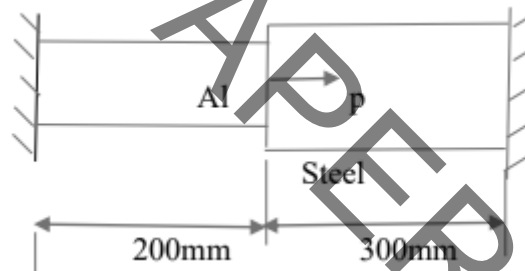

Figure 1
2. An axial load of  $4 \times 10^5$  N is applied at  $30^\circ\text{C}$  to the rod as shown in figure 1. The temperature is then raised to  $60^\circ\text{C}$ . Calculate the following (a) Nodal displacements (b) Stresses in each material. [7+8]